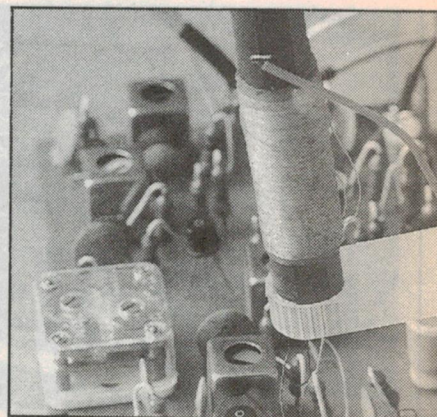
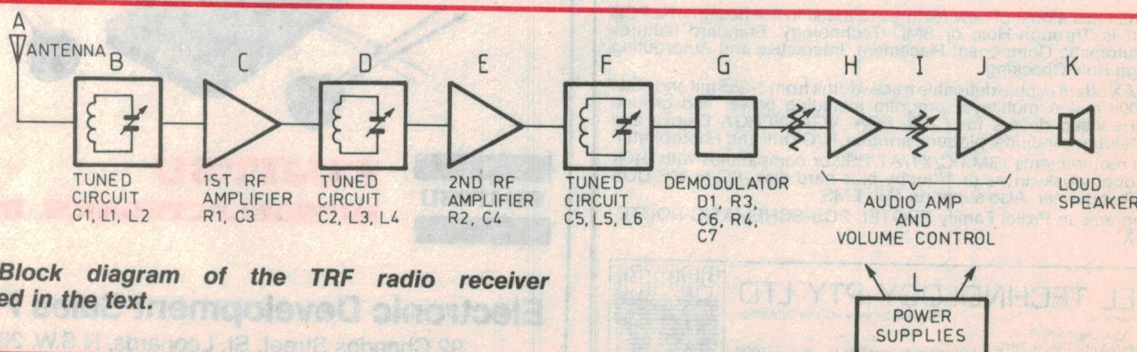
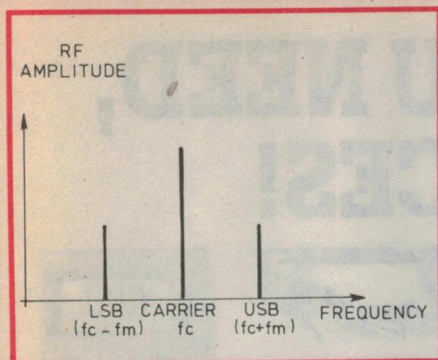
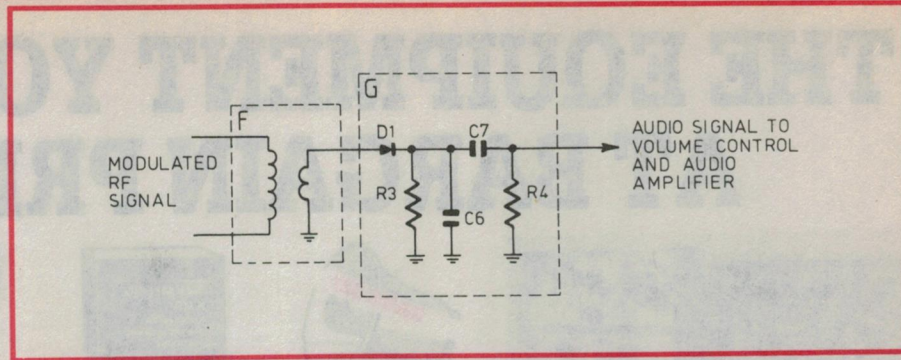

Fig.1: The first tuned circuit of this radio consists of the ferrite cored coil in the centre and the miniature tuning capacitor at lower left.
Fig.2: Block diagram of the TRF radio receiver discussed in the text.
Fig.7(b): The carrier, upper and lower sidebands for the case of a carrier modulated by a sinewave audio frequency.
Fig.8: A basic diode demodulator for AM signals, as discussed in the text. This type of demodulator is also called a 'diode detector'.
Unless we live under the shadow of the radio station transmitting antenna mast, the amplitude modulated radio frequency signal arriving at our location will probably be quite low in intensity. If you live further out, say 100km from the station, the signal strength in your first tuned circuit, Fig.1, may be as low as 5, 10 or 20 microvolts. The only thing we can possibly do with that is to immediately amplify it up to a larger signal.
Probably we will need to amplify the received signal a number of times, through multiple stages, as Fig.2 suggests. Fig.2 is representative of the simplest type of radio receiver for amplitude modulation (AM) weak radio signals. This type is called the *tuned radio frequency* or 'TRF' radio receiver.
The antenna labeled A in Fig.2 picks up all radio transmissions at our location. The first tuned circuit, B, responds to the frequency to which we have tuned the radio, attempting to reject all others. Alternately, in many portable radios without an external antenna the first tuned circuit is a ferrite rod core, like that in Fig.1, which picks up the magnetic field of the radio transmission directly within the tuned circuit itself. Either way the desired radio transmission frequency circulates between the inductance and capacitance of tuned circuit B.
Passing through each such tuned circuit, shown in Fig.2 as B, D and F, our wanted signal becomes more dominant while all the unwanted frequencies weaken, until (hopefully) only the strong wanted signal remains.
The second tuned circuit, D in Fig.2, is an intimate part of the first RF amplifier stage. Also the third tuned circuit, F, is part of E, the second RF amplifier.
The whole tuned-gain process is repeated in the second tuned RF amplifier (E in Fig.2), with its tuned load F, the signal fed to it by tuned circuit D in like manner.
For this scheme to succeed, with the receiver convenient to tune, all three tuned circuits (B, D and F of Fig.2) must be changed together so that they are always tuned to the same chosen frequency.
The signal in the antenna, tuned circuits and RF amplifiers is the amplitude modulated radio frequency signal emanating from the transmitter as we discussed last month, shown here again in Fig.7. This is the time domain view showing the high frequency (carrier frequency) RF signal, the amplitude of which goes up and down at audio frequency.
The horizontal axis of Fig.7(a) is ordinary real time, in microseconds, while the vertical axis is signal strength. We depict here how it would look when modulated by an audio frequency sine wave. It is a picture of a varying radio frequency signal, but the audio signal 'carried by it' is not to be seen directly. It implied in Fig.7(a) as the imaginary envelope we can see in our mind's eye, which would enclose either the top or bottom of the waveform shown.
Fig.7(b) is a visualization of the same thing, but drawn with frequency as the horizontal axis. Recall from last month that, for modulation by an audio frequency sine wave, the frequency domain picture Fig.7(b) shows a signal composed of three frequencies:
Fig.7(a): The waveform of an amplitude-modulated RF signal (slightly over modulated). The signal itself is of a high frequency, but its amplitude is varying at a lower rate – that of the modulating signal.
So far so good. We have captured in our receiver the desired amplitude-modulated (AM) radio frequency signal, and made it big and strong. But so far, at position F in the block diagram Fig.2, we do not have a signal to which we can listen. We now must somehow extract the audio information, the audio signal, out of that mixture of three RF signals.
The process for doing just that is called *demodulation*, and (lucky for us) for an AM signal as in Fig.7 that is not a difficult task.
Let us now look into the details of section G and the tuned circuit F which feeds it in the block diagram Fig.2, keeping in mind the modulated RF signal as shown in Fig.7(a).
The details are shown in Fig.8. The tuned circuit F (which is the tuned load for the last RF amplifier E in Fig.2) has a small secondary winding L6. This winding couples the modulated RF signal to diode D1 and its load resistor R3. The diode allows all the positive (top half) half-cycles of the modulated RF signal to pass, and flow down the load resistor R3 to ground. The current flowing through the diode is shown in Fig.9, which is simply the top half of Fig.7(a).
bottom half of Fig.7(a)) is blocked by diode D1.